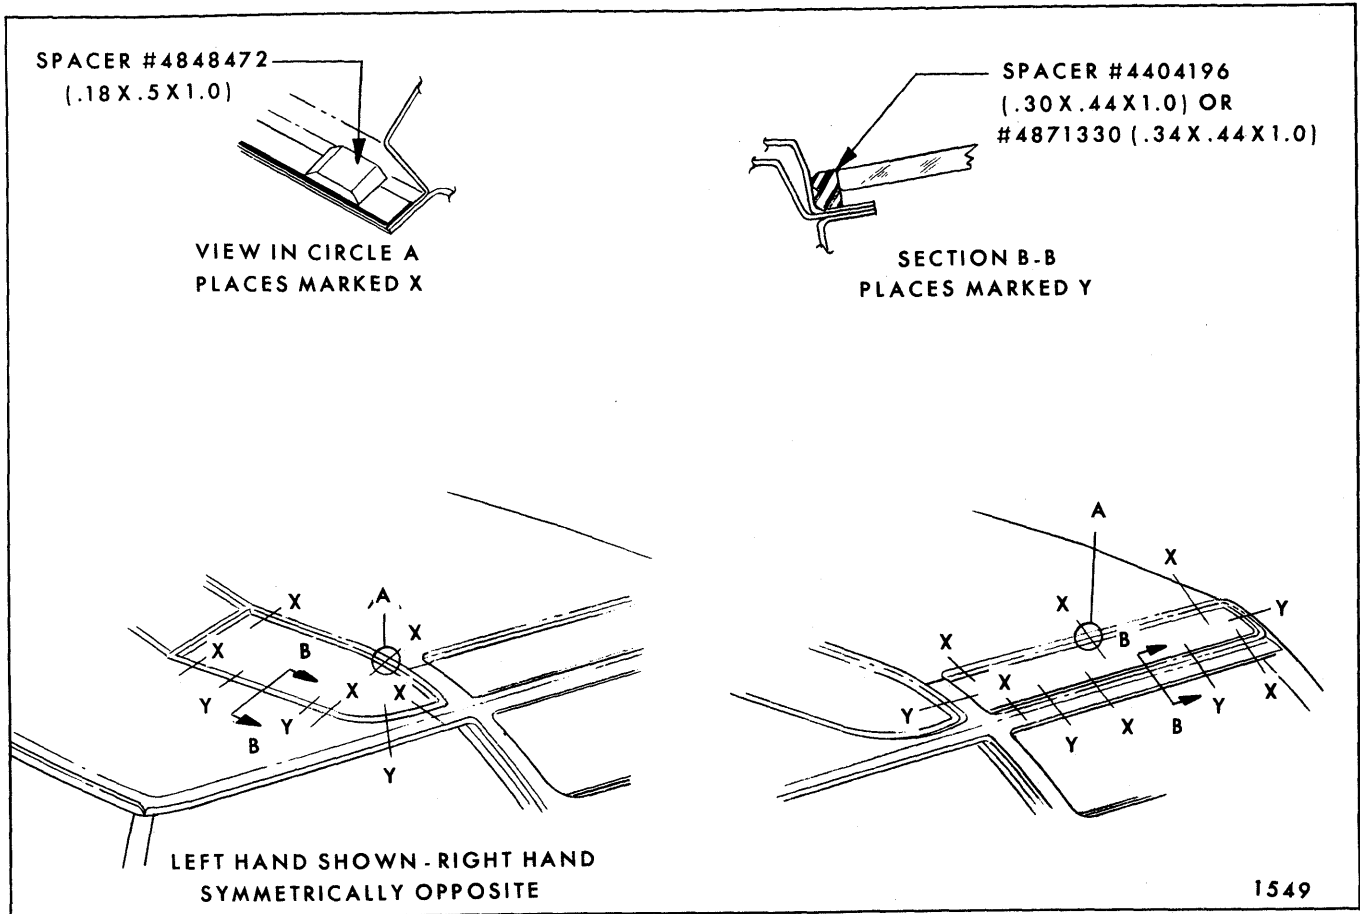

Fig. 5-7—Front and Side Skylight Rubber Spacer Installation
2. Using black weatherstrip adhesive, cement flat rubber spacers #4848472 or equivalent (.18 x .5 x 1.0) to window opening pinchweld flanges at "X" locations as shown in Circle "A" in Figure 5-7.
3. Using black weatherstrip adhesive, cement rectangular spacers #4404196 or equivalent (.30 x .44 x 1.0) to window opening rabbet at "Y" locations shown in Section "B-B" in Figure 5-7.